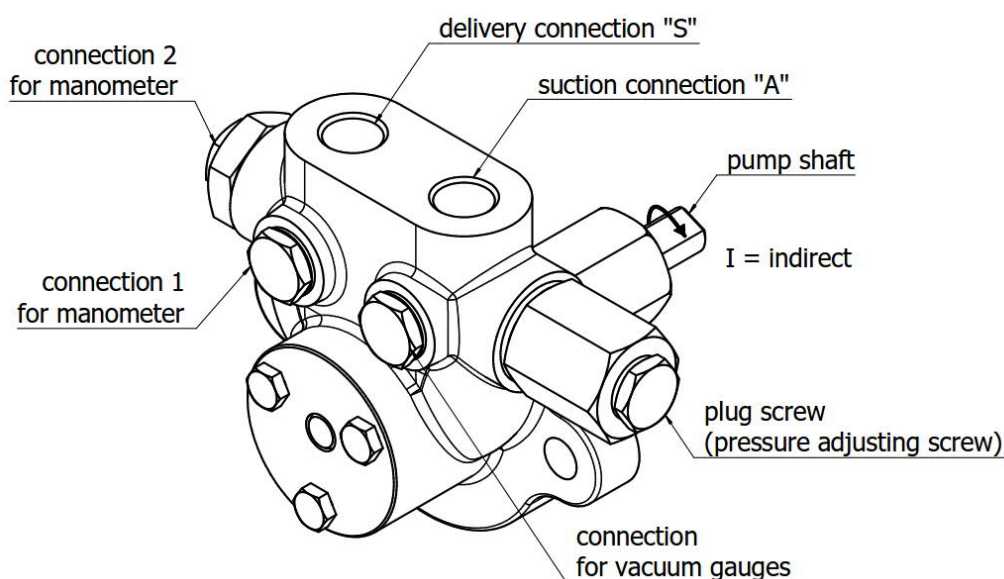

Fig. 1. (Example for direction of rotation „I“)
- The suction connection (see Fig. 1) of the pump is filled with oil. Then the suction line is connected to thread connection „A“.
- The pressure/delivery line connect to thread connection „S“. (Fig. 1)
- Remove the screw plug for connecting the manometer 1 / vacuum gauge (Fig. 1). The pressure gauge connected to port „A“ it shows the suction pressure and the pressure gauge connected to port „S“ it shows the delivery pressure. Observe using manometers with the right pressure range (according to the pump's pressure range).
- For pressure regulation, the plug screw (see Fig. 1) must be removed.